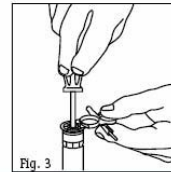

Fig. 3
1. Hold the nozzle arc stationary with fingers, or with the two pins on the side of the Hunter wrench between any of the nozzle spokes. (Fig. 3)